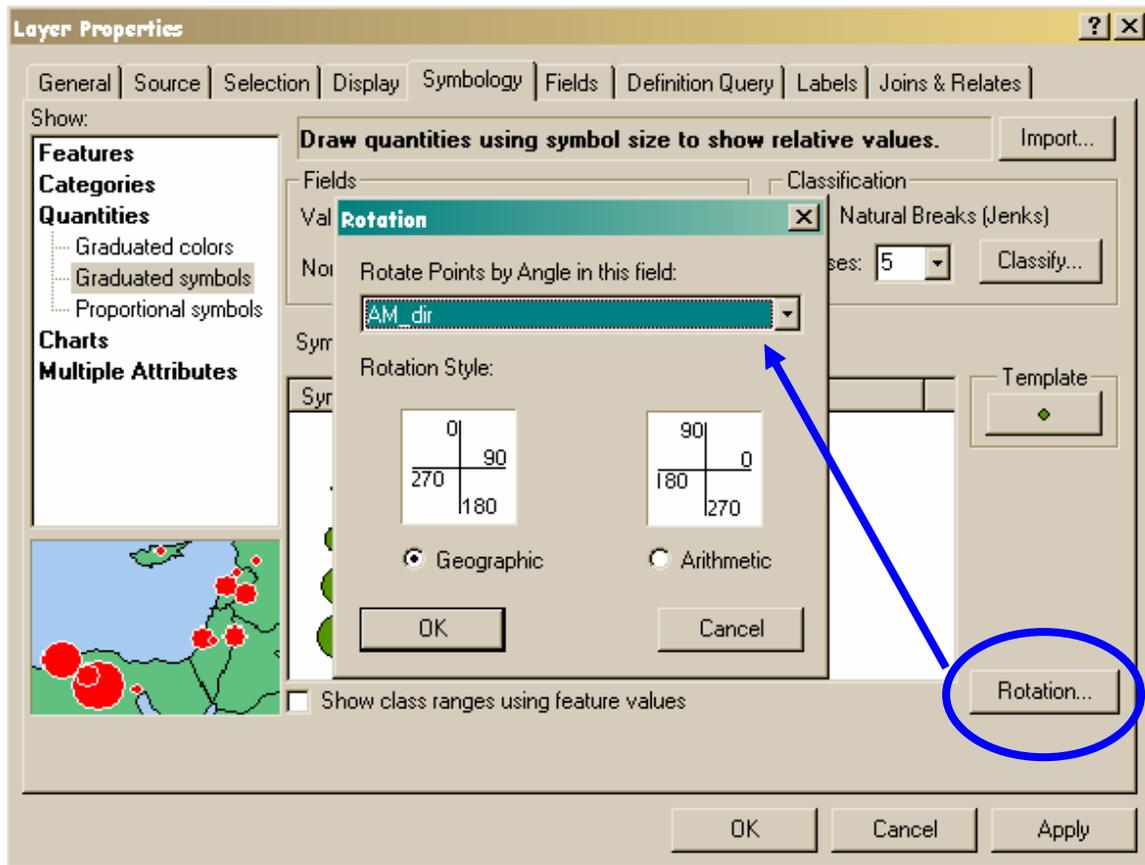

Figure 8. Selecting the data field and Rotation Style for arrow rotation.
14. Click on the **Rotation** button which will open the **Rotation** dialog box (Figure 8). Click on the dropdown arrow and select **AM_dir** to rotate the points from the available options and select **Geographic** in the radio button for **Rotation Style**.